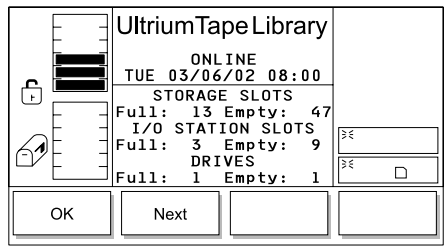

Figure 93. System Dialog
- Press the button below the **System** softkey. The System Dialog displays (see Figure 93). The screen gives the number of full (occupied) and empty storage slots. It also lists the number of full and empty I/O station slots and drives.